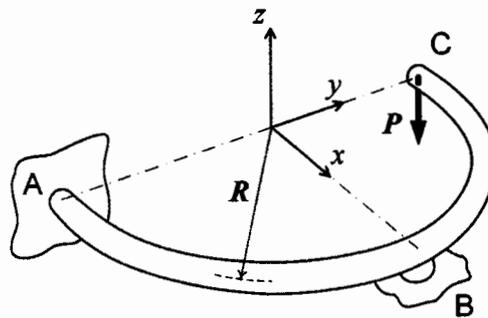

Fig. P3
- A semicircular wire as shown in Fig. P3 is built into the wall at point A , simply-supported on the bottom at point B , and subjected to load P at end point C . The wire has a circular cross-section of radius r , $r \ll R$. Young's modulus and Poisson's ratio of the wire are E and ν , respectively. The cross-sectional area moment of inertia about the bending neutral axis is $\pi r^4/4$. Determine the deflection δ_z at point C and the support reaction at point B by using Castigliano's theorem (alternative solution approach is not allowed). (24 Pts)